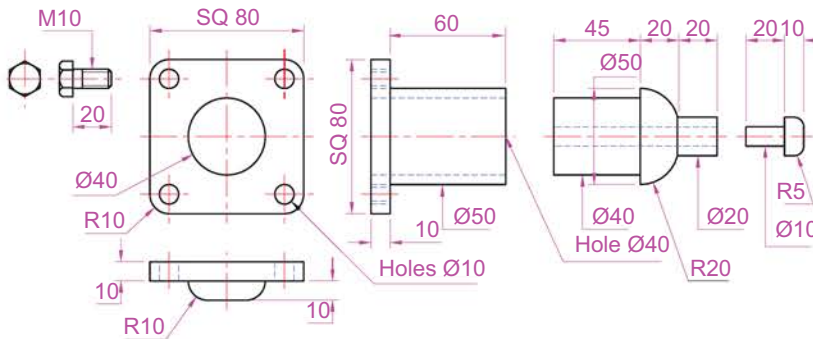
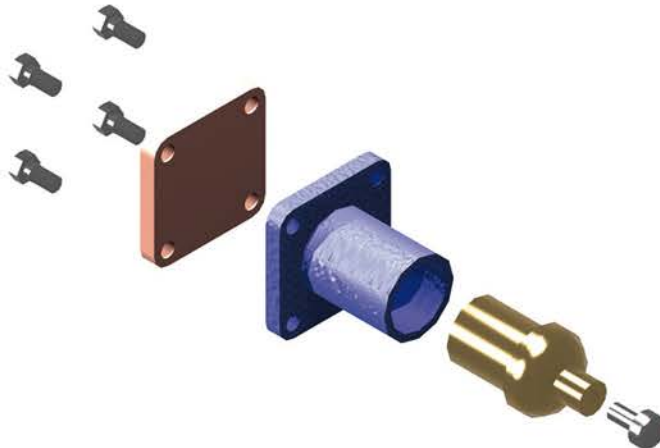

Fig. 19.36 Exercise 8 – details of shapes and sizes
Fig. 19.37 Exercise 8 – an exploded rendered model
- Construct an assembled 3D model drawing working to the details given in Fig. 19.36. When the 3D model drawing has been constructed, disassemble the parts as shown in the given exploded 3D model (Fig. 19.37).